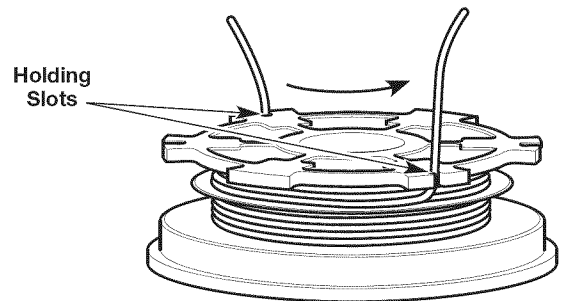

Fig. 20
3. Insert the two 6-inch ends into the two .095 holding slots (Fig. 20).
4. Insert the two 6-inch ends into the two .095 holding slots (Fig. 20).